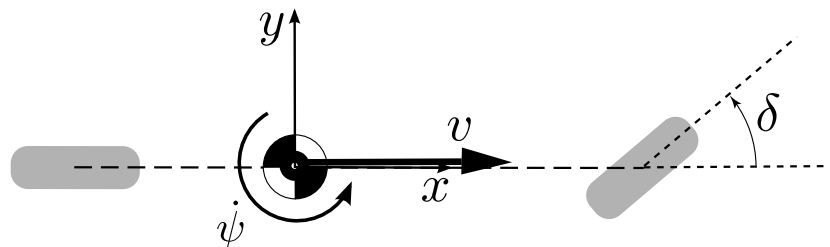

Figure 3: Bicycle model defining steering angle δ (drawn in positive direction after “ISO 8855” coordinate system \Rightarrow z up) and speed v .
- DT2.2.4 Beside RES messages (see DT2.1.8), the messages defined in Table 2 must be provided to the data logger with a cycle time of 100 ms each. Steering angle δ and vehicle coordinate system is defined in Figure 3.